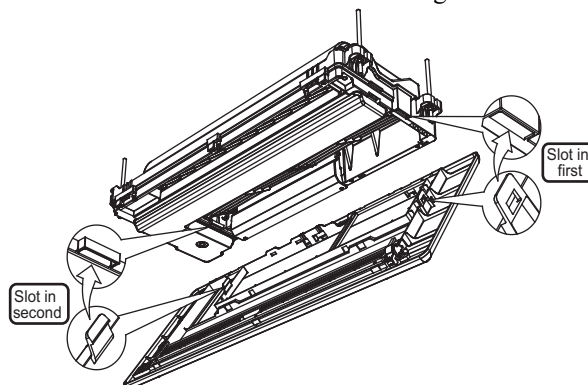

Fig. 20 —Buckle Assembly
1. There are two buckle structures on the panel assembly for the installation of the auxiliary panel. The assembly method of these buckles is shown in Fig. 20.